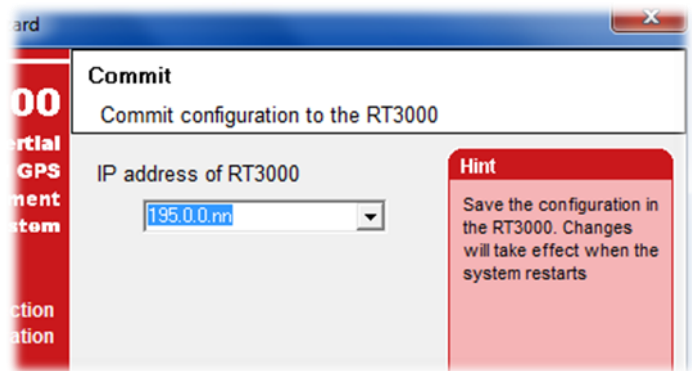

Figure 18. IP Address Page
- Commit the configurations to the RT (Figure 18) and exit RT-Config upon successful communication with the RT